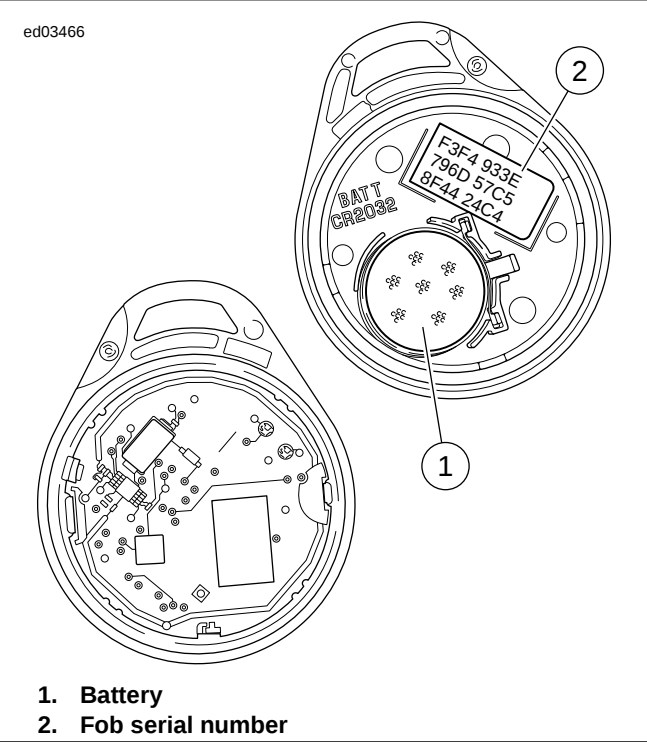

Figure 5-45. Open Fob
- See Figure 5-45. Verify fob battery voltage is at least 2.9V.